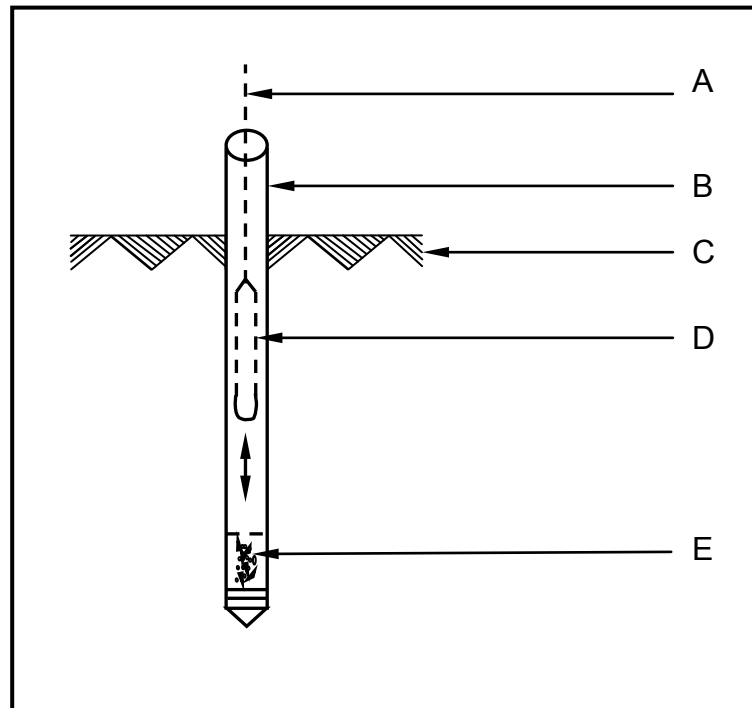

FIGURE 2.5
2.5 FIGURE 2.5 below shows a type of pile being installed.
- 2.5.5 Explain under what conditions the type of pile in FIGURE 2.5 can be used. (1)
- 2.5.6 Name ONE other type of pile that can be used instead of the one in FIGURE 2.5. (1)